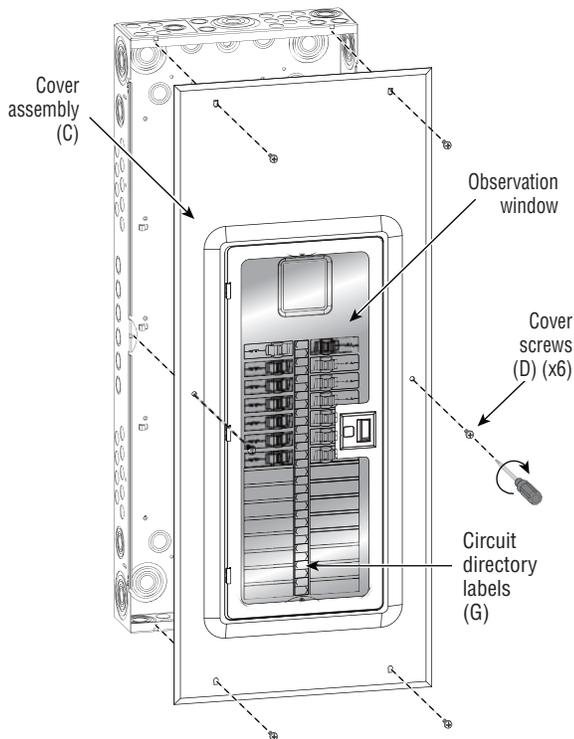

Fig. 3
6. Leviton® covers contain a feature for adjustment in flush mounting applications. Turn each **adjustment screw (E)** until the cover fits tightly against the circuit breakers (*fig.3*).